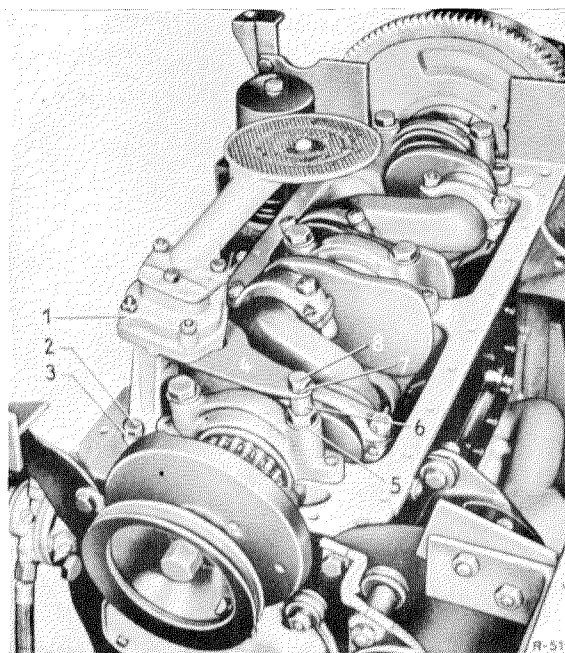

Figure 18-11/3
2. Loosen the two mounting screws (2 and 8) for the oil pump and remove the oil pump with bracket (4) (see Figure 18-11/3).